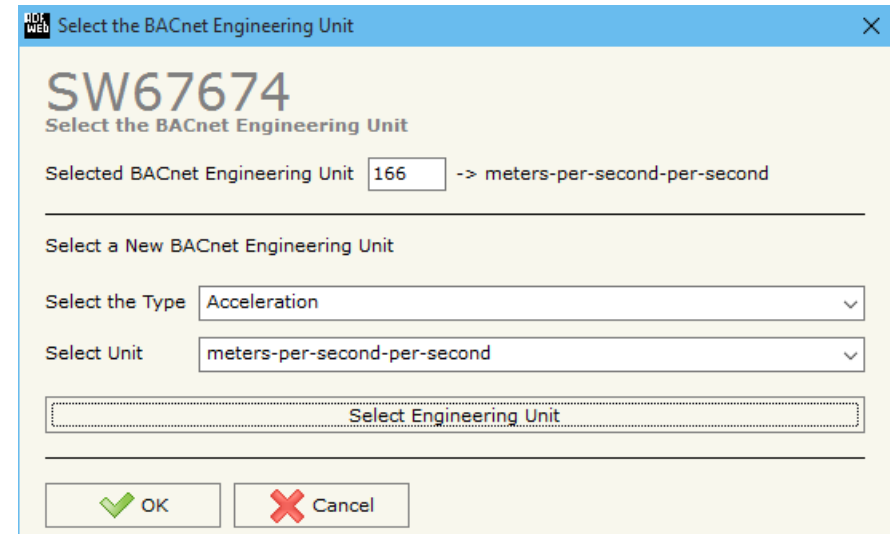

Figure 5: "Select the BACnet Engineering Unit" window
- In the field **“Eng. Unit”**, with double click the window **“Select the BACnet Engineering Unit”** appears (Fig. 5);